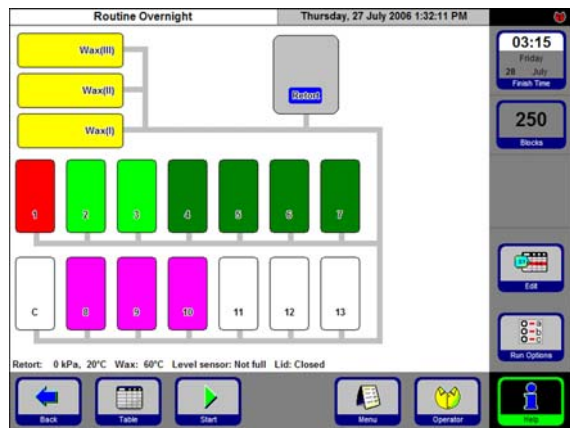

Fig. 63
- A graphic representation of the stations / retort will be displayed. The stations required for the program you are about to start will be colored in the corresponding reagent group colors (Fig. 63).